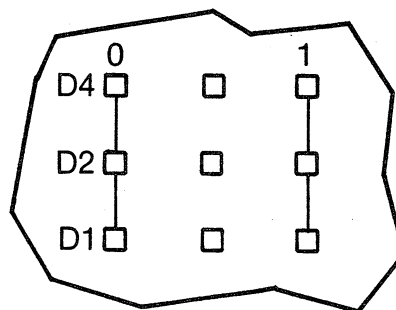

FIGURE 3-9. DRIVE SELECT DECODE
3. Install nine terminal posts (Memorex PN 150374) at the D1, D2, D4, 0, and 1 matrix. See Figure 3-9.